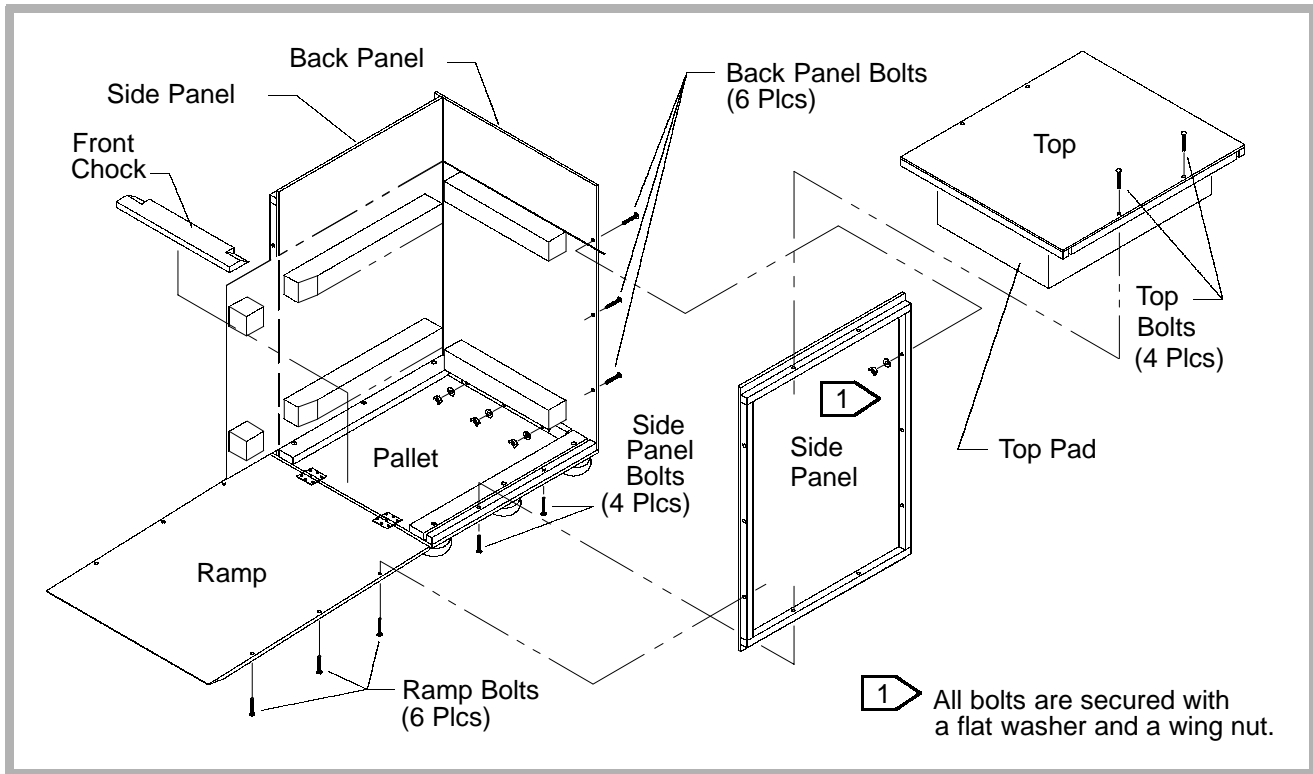
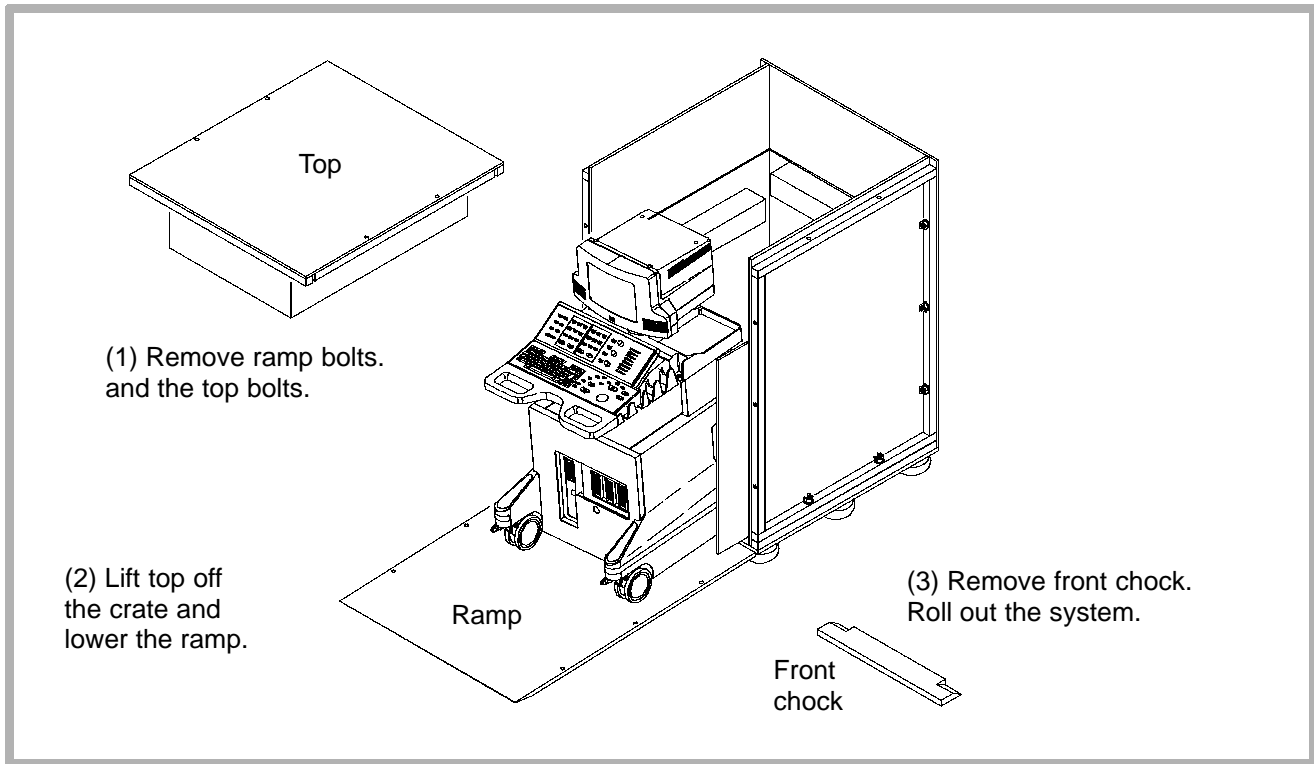

Figure 5-1. Wooden Crate Details
Figure 5-2. Unpacking Details
1. Remove the four bolts securing the top and remove the top (**Figure 5-1** and **Figure 5-2**).